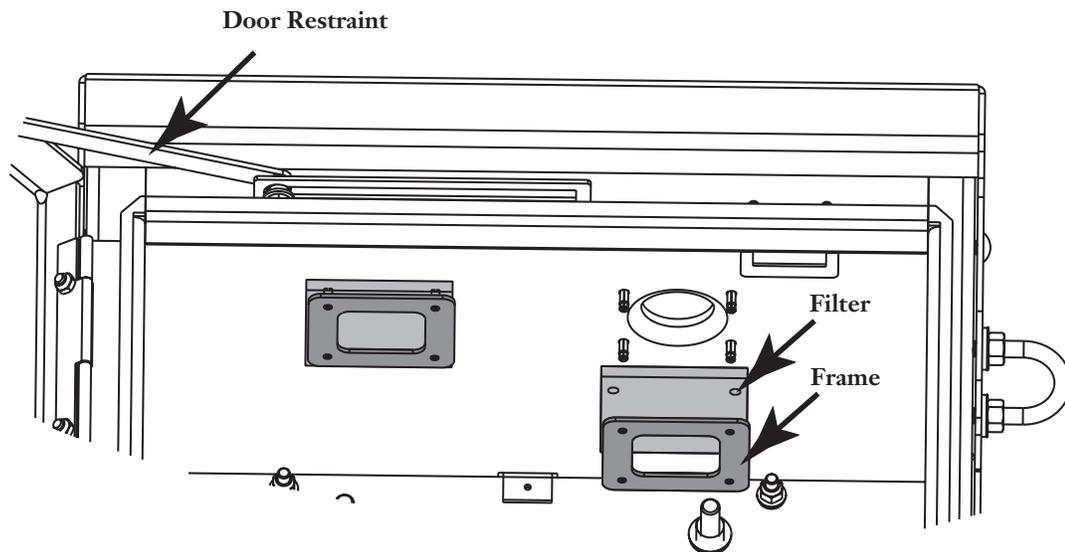

Figure 20 — Filters in Cabinet Roof
- Step 1** Using a 216B tool, open the cabinet door until the door restraint automatically engages to hold the door in the open position as shown in Figure 20.